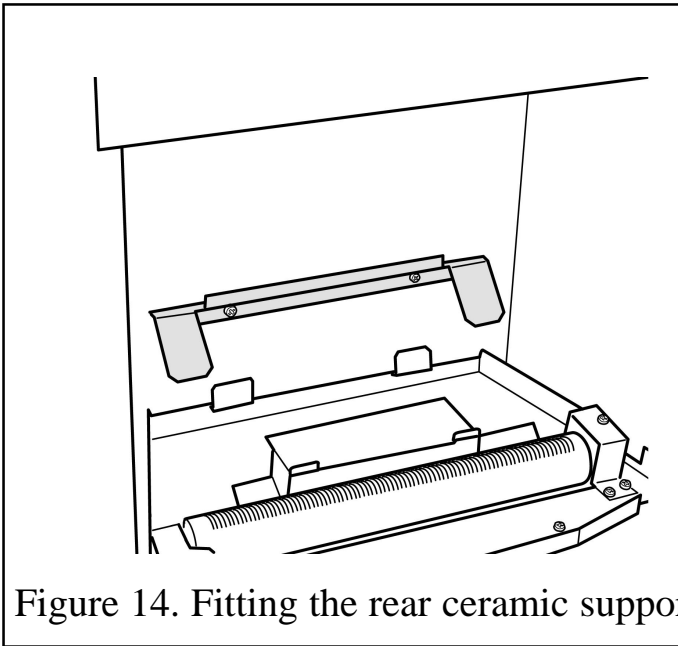

Figure 14. Fitting the rear ceramic support.
8. This appliance is supplied with a rear ceramic support bracket. Fit this using two screws supplied (See figure 14)